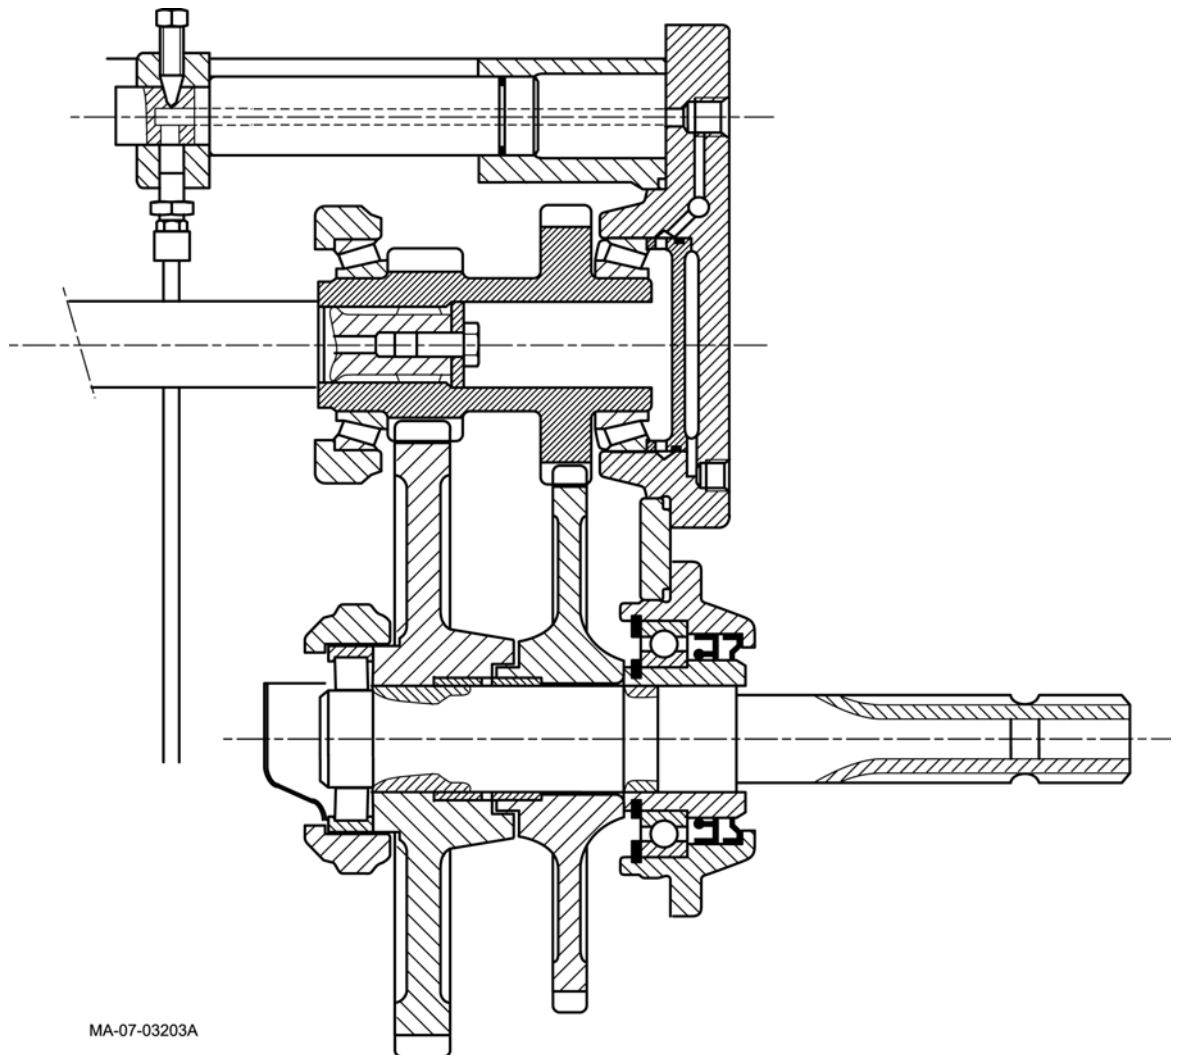

Fig. 3
- rim with brackets: 8 positions (Fig. 3).
Rim on disc (wheel with brackets): 180 - 250 Nm (Fig. 3).